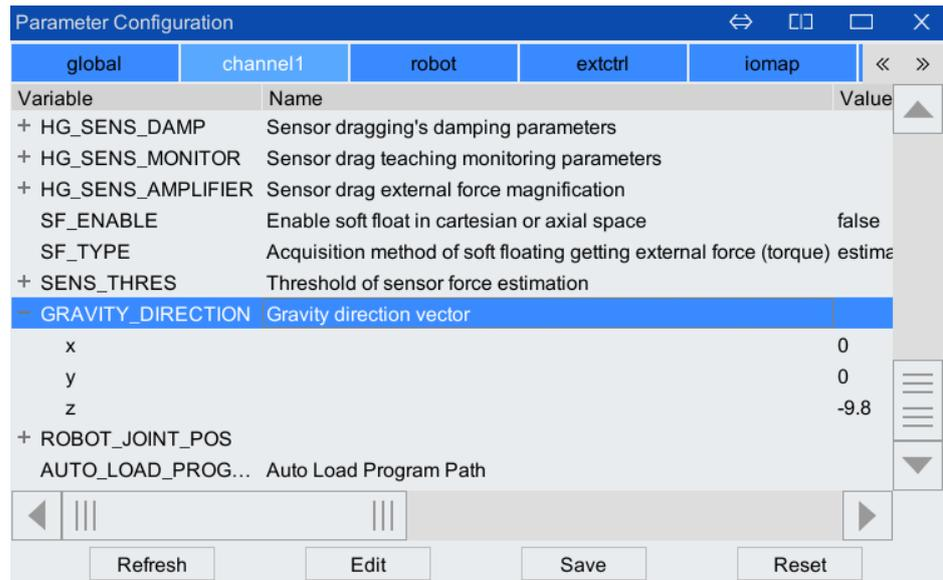

Figure 5-100 View channel parameter interface
Step6. On the main interface of the teach pendant, click "System>Parameter Configuration>Channel", click [+] in front of [GRAVITY_DIRECTION (gravity direction vector)], and you can view the calculation result of the installation angle in the expanded parameter value, as shown in Figure 5-100.